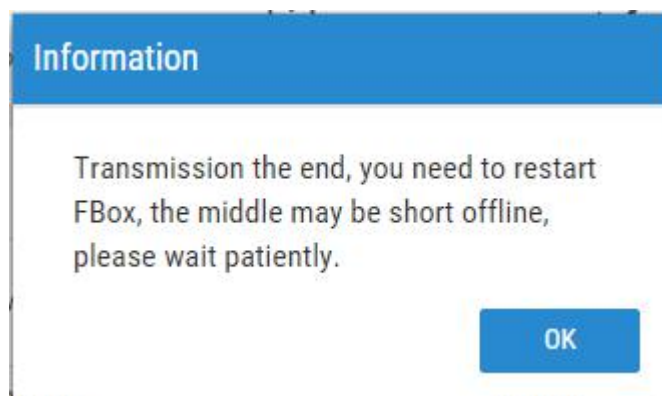

Fig. 4.9-8 System information message box after serial transmission
(1) In the PLC download settings, set the serial number to the virtual serial number displayed in the serial "Transmission Downloading" dialog. Set the serial port parameters, such as the baud rate and so on, consistent with the FBox as well as the actual PLC.
(2) After the completion of the download settings, you can directly click the download, upload or connect button to operate the PLC in PLC programming software.
(3) Return to the FBoxClient software when the download is completed. After click the "Stop" button in the Serial "Transmission Downloading" dialog, a system information message box will pop up, as shown in Fig. 4.9-8. Click the "OK" button to finish the transmission.